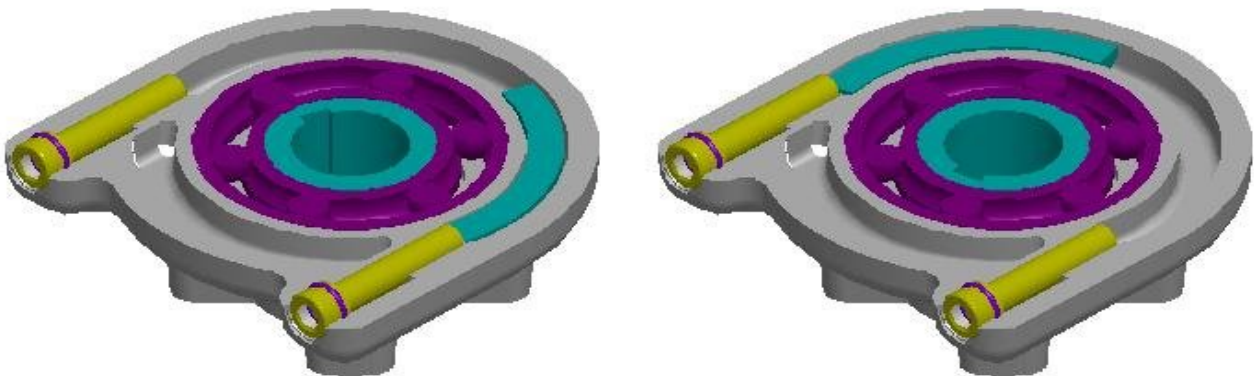
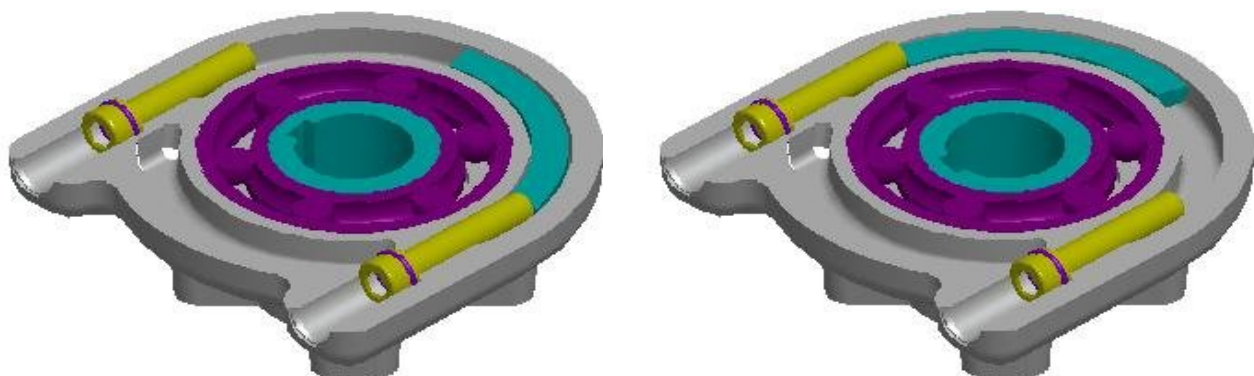

Fig. 13
Fig. 14
- release both backstop screws in such way that their heads shall be on the same level as the opening edge (Fig.13)
*It is possible to increase (Fig.13) or decrease (Fig.14) the operating angle by 26° on adjusted EA by means of backstop screws, but you are loosing possibility of the output shaft position tuning. In doing so, the positioning unit must be adjusted to this angle and transmitter must be ejected from angle.*